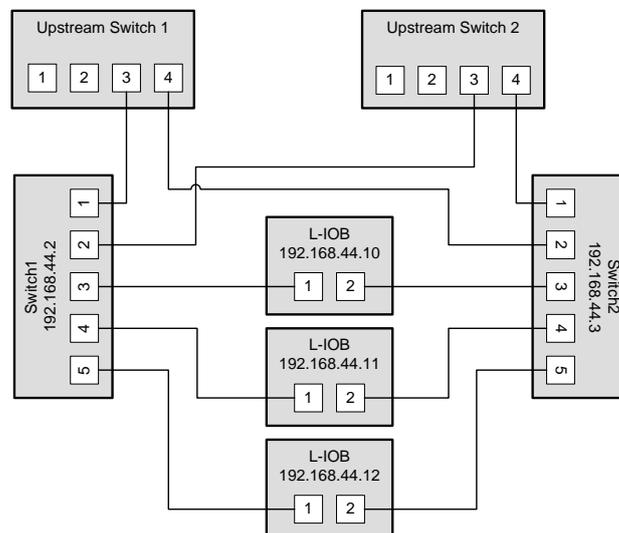

Figure 78: Fully redundant Ethernet topology
**Fully redundant topology:** Both Ethernet ports are connected to a different upstream switch. Thus, a single cable or upstream switch problem can be tolerated. This topology requires RSTP. In Figure 78, the L-IOB devices with IP addresses 192.168.44.10 to 192.168.44.12 are connected in this way. This connection scheme increases switch and cabling costs, but increases network resilience. Note that the upstream network is connected via the lowest-numbered ports. If this is not possible, the ports need to be configured to the lowest STP port priority value (which is the highest priority).
are not selected as the root bridge. If possible device communication should be bound to a separate VLAN and MSTP (Multiple Spanning Tree Protocol) should be employed to isolate the spanning tree operations. This topology is shown in Figure 78.
The following example shows the configuration commands for Switch1, Switch2 and the upstream switch (HP Procurve syntax) in the setup shown in Figure 78.